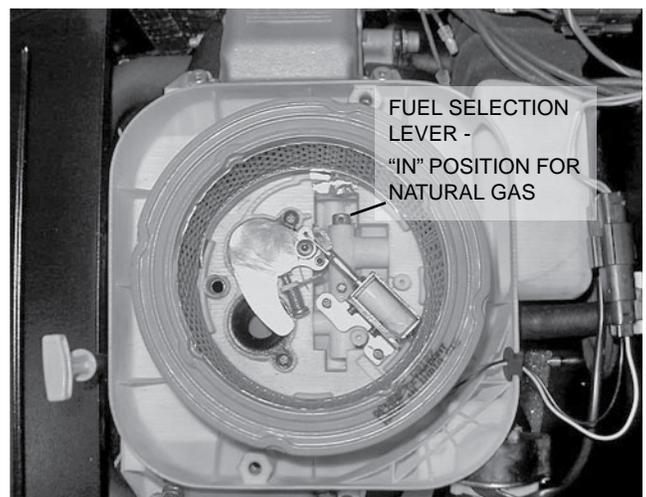

Figure 4. 12/14/16/17/20 kW, GT-990/GT-999 (Airbox Cover Removed)
- Slide the selector lever out towards the back of the enclosure (Figures 4 and 5).